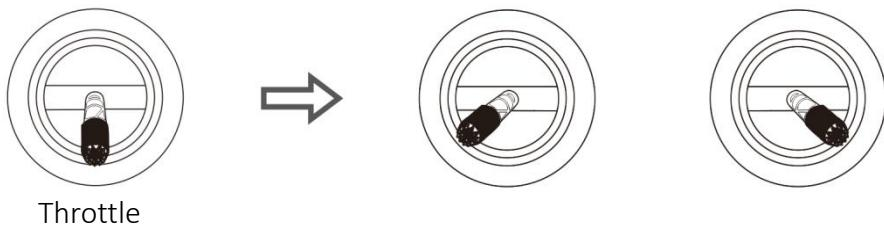

Figure 2-6 Land and Lock
**Step 2:** After the drone lands, place the throttle stick to the down position, and then perform the locking action as shown in Figure 2-6.